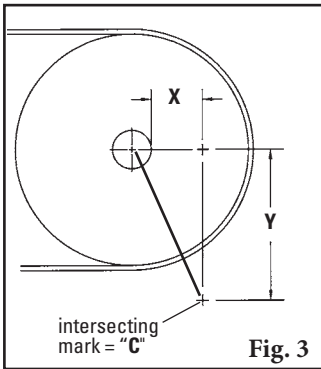

Fig. 3
5. **Determine Y dimension.** From the X mark, draw a line vertically down to the selected Y dimension and make a mark (Fig. 3). This is the correct position for the center of the pole. Verify "C" dimension from table on page 11 (metric) or 12 (imperial).